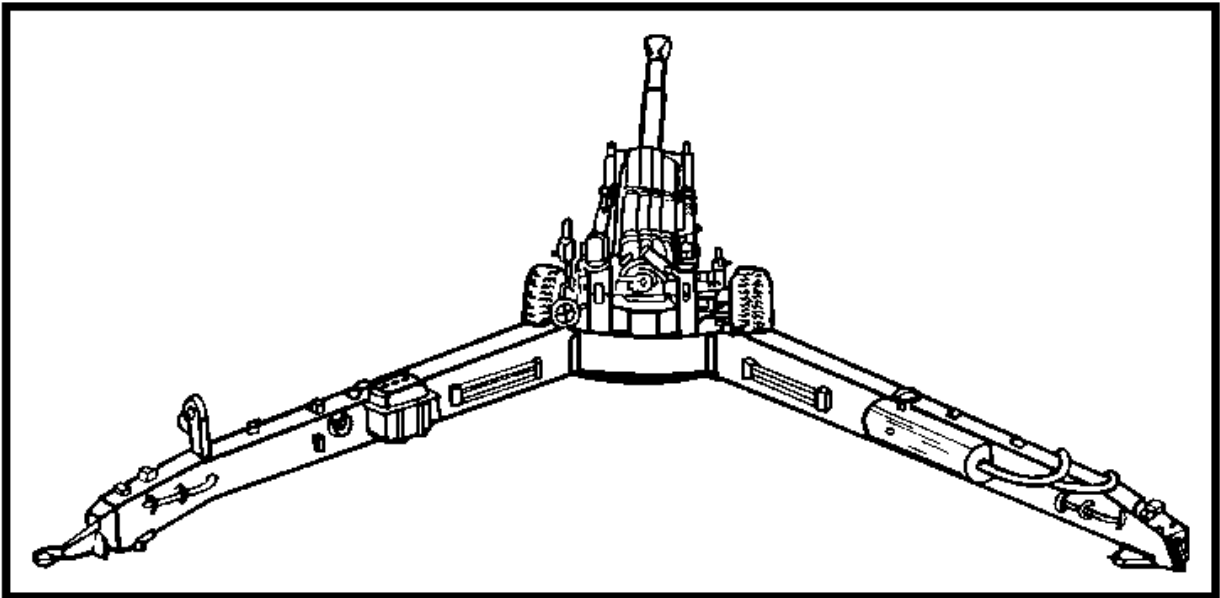

Figure 9. M198 howitzer in the firing position.
a. M198 description. The M198 155-mm towed howitzer is a medium artillery weapon (Figures 9, 10, and 11) designed to provide DS field artillery fire in the infantry divisions. The M198 is an extended-range, split-trail weapon that can be towed by vehicle or airlifted by a CH-47D helicopter. The carriage has a retractable suspension system and a top carriage, which can be rotated 3,200 mils to decrease overall length for shipment or storage. The lightweight M198 howitzer has a low profile, may be emplaced rapidly, and has a 6,400-mil speed shift assembly. The firing, stowed, and towed positions for the M198 howitzer is as shown in Figures 9, 10, and 11.